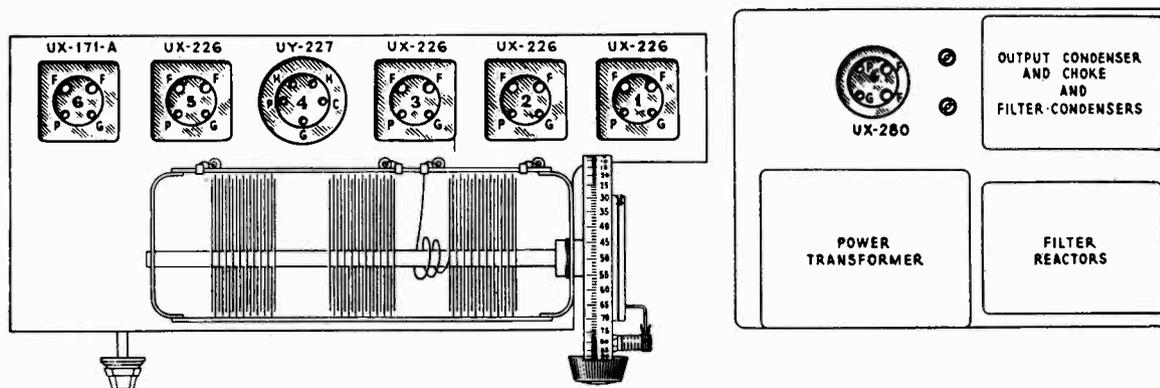
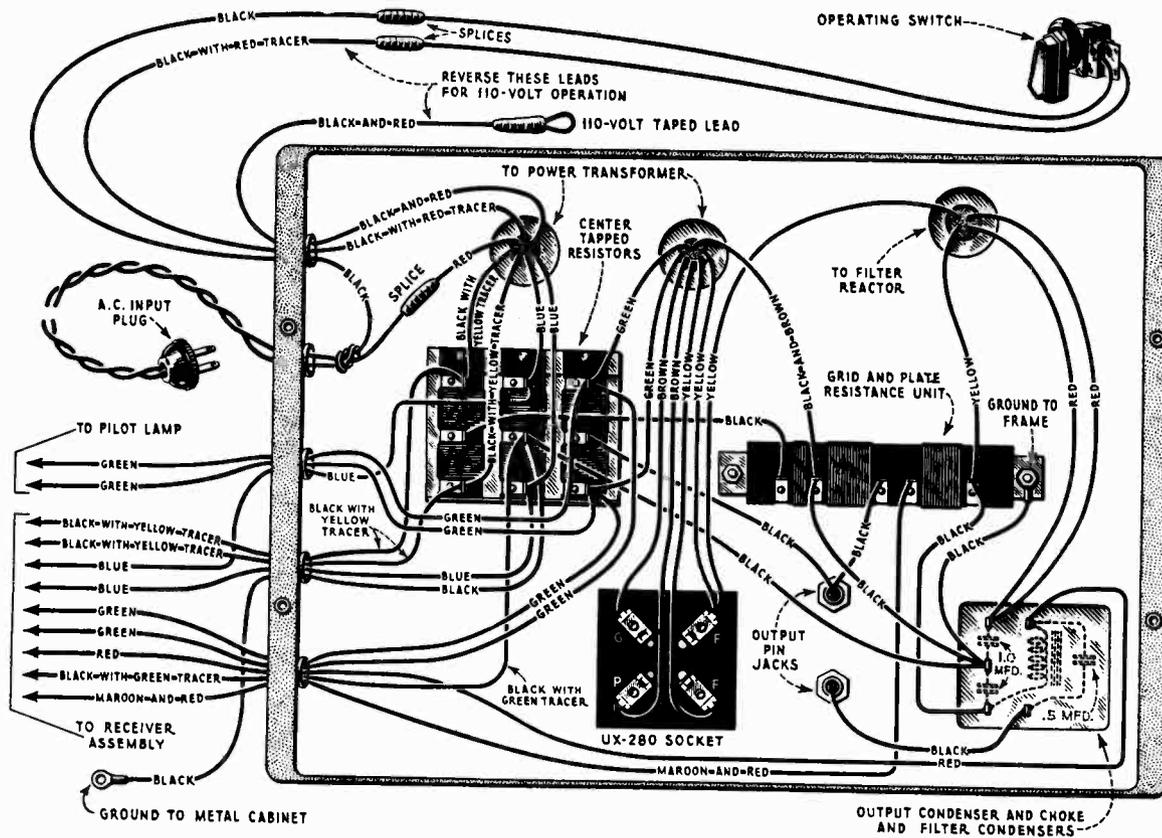

Figure 12—Diagram showing location of Radiotron socket contacts
Figure 15—Wiring diagram of socket power unit
The following tests will show complete continuity for the receiver assembly (Figure 14) and the Socket Power Unit (Figure 15). Disconnect the antenna and ground leads and the A.C. supply cord at its outlet.
A pair of headphones with at least  $4\frac{1}{2}$  volts in series or a voltmeter with sufficient voltage to give a full scale deflection when connected directly across the battery terminals should be used in making these tests. The receiver sockets, numbers and lugs used in these tests are shown in Figure 12. The S.P.U. terminals are shown in Figure 15.
- (d) Clamp the assembly in place by turning the tabs over on the under side of the base. Solder the connections as indicated in Figure 15.
- (e) Connect all the leads from the assembly to the points of connection as in Figure 15 which should be followed exactly when any S.P.U. parts are replaced.